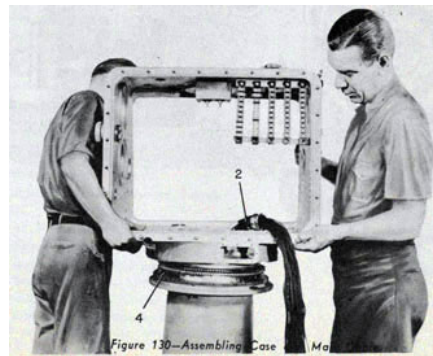

Figure 130-Assembling Case and Main Cable
4. With the help of another man lift the case and place it over the two dowels on the top of the stand inner bearing. The inner bearing contains a gland which extends at a 45 degree angle from the bearing. This gland must be placed directly in front of the center rectangular transmitter pad projecting above the base of the case. See figure 130.